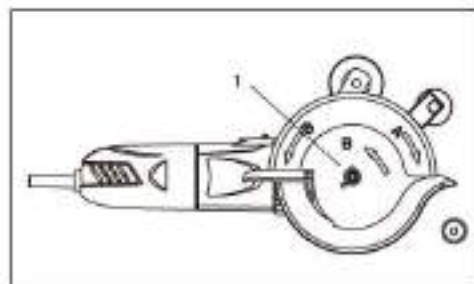

Fig.3
6. Take the arbor adaptor "I" and push it down onto the flange with the "I" clearly visible. Make sure that the adaptor is properly seated over the flat sides of the flange. (see Fig.3)